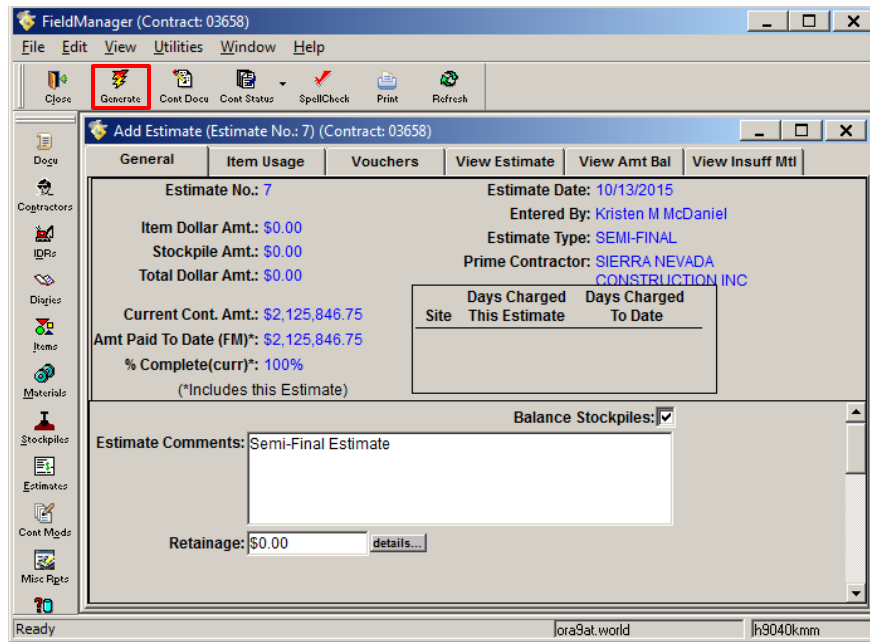
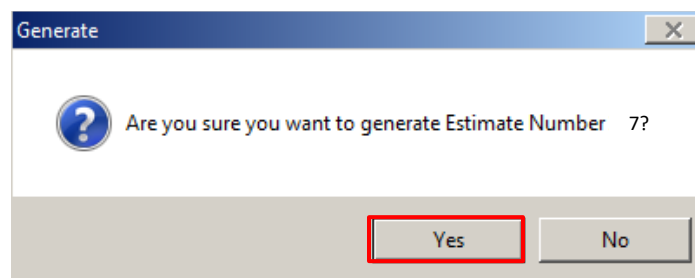

Figure 13-6. Add Estimate Tab Window – General Tab
Figure 13-7. Estimate Generate Confirmation Window
1. Once you have checked all the information and are sure the estimate is correct, click **Generate** on the Window Toolbar (Figure 13-6). You will receive a Generate Window (Figure 13-7).
2. Click the **Yes** button on the Generate Window (Figure 13-7).